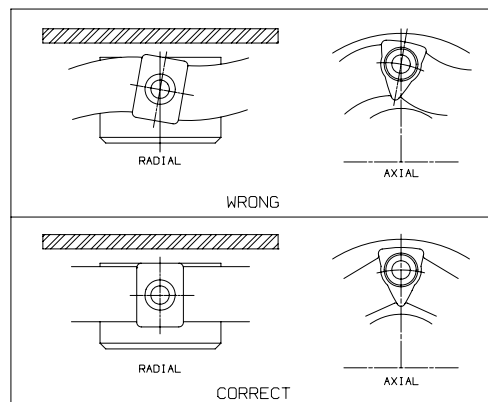

Figure 4
Note 1: Refer to Figure 4 and ensure the aluminum inserts or bushings in the element are not distorted or twisted in any way. If the inserts are twisting the rubber portion of the element, the coupling will fail prematurely.
8. Once the axial screws have been tightened, rotate the elements and floating shaft and tighten each of the radial screws until they are snug. When tightening the screws to their prescribed torques, it will be necessary to prevent twisting of the element (figure 4) by restraining the insert with a proper tool that will not score or damage the rubber coating on the insert. Repeat this process to tighten each of the screws to roughly one half the torque value listed in Table 1. Finally, repeat once the procedure once again tightening each screw to the designated full torque amount.
b. When tightening the screws make sure the aluminum inserts or rubber arms are not twisted (see figure 4). To reduce the friction between the screw head and aluminum insert, place a small amount of a non hydrocarbon based lubricant such as a petroleum jelly under the bolt heads prior to tightening. If the inserts are twisted, the radial inserts may not seat properly on the cylindrical hub or spacer shaft. If this happens the hub will not carry the load with the full surface of the insert. When this happens, the other radial screws can loosen and the coupling will fail.